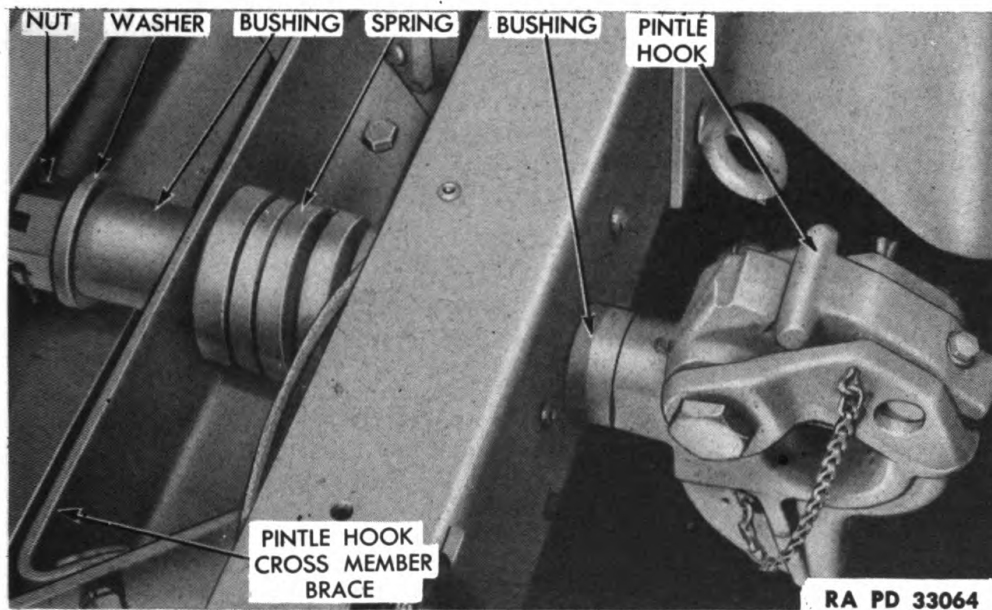

Figure 117—Pintle Hook Replacement
e. Pintle Hook Replacement (fig. 117). Remove the cotter pin, nut, and washer from front end of pintle hook, and pull the pintle hook out of bushings. Push the new pintle hook through the bushings, and install the washer and nut. Tighten the nut until there is just enough spring tension to hold the bushings tight in frame. Install cotter pin.